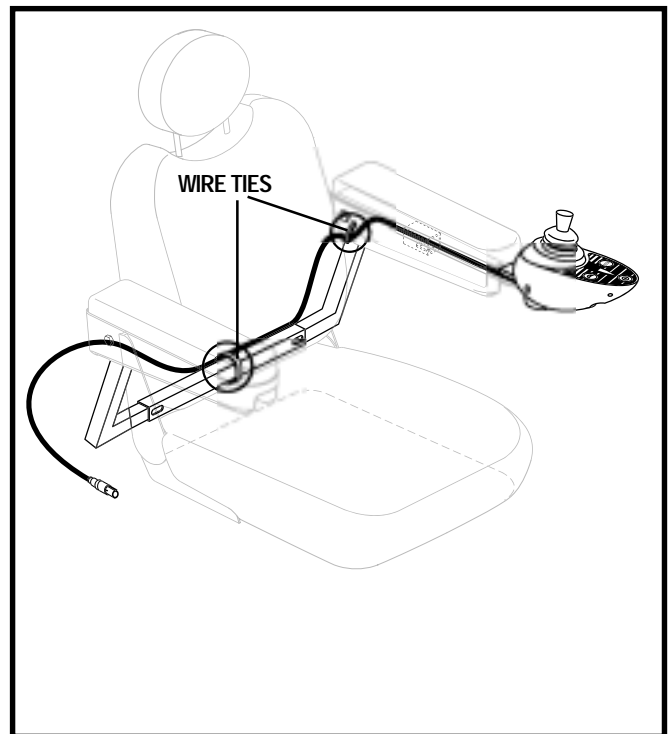

Figure 13. Remote Plus Controller Routed on a Contour Seat
9. Secure the controller cable to the armrest receiver with wire ties. See figure 13.
9. Use wire ties to secure the controller cable to the seat frame. See figure 13.